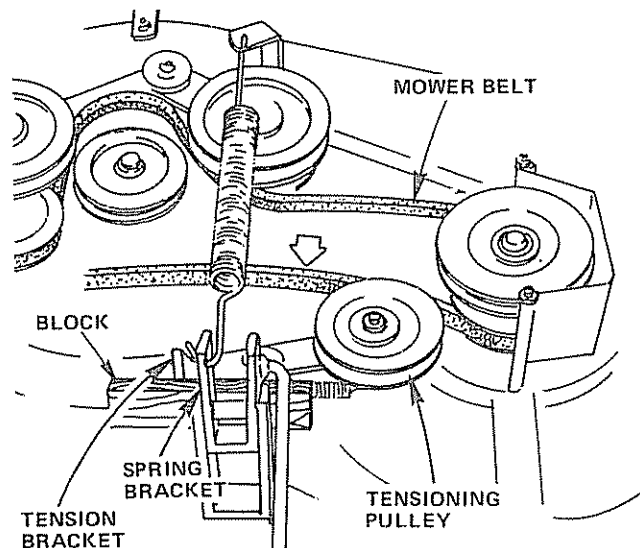

FIGURE 28
3. Pull Belt towards rear of Mower at Tensioning Pulley. Place a block between Tension Bracket and Spring Bracket. Roll Belt off Tensioning Pulley (Fig. 28).